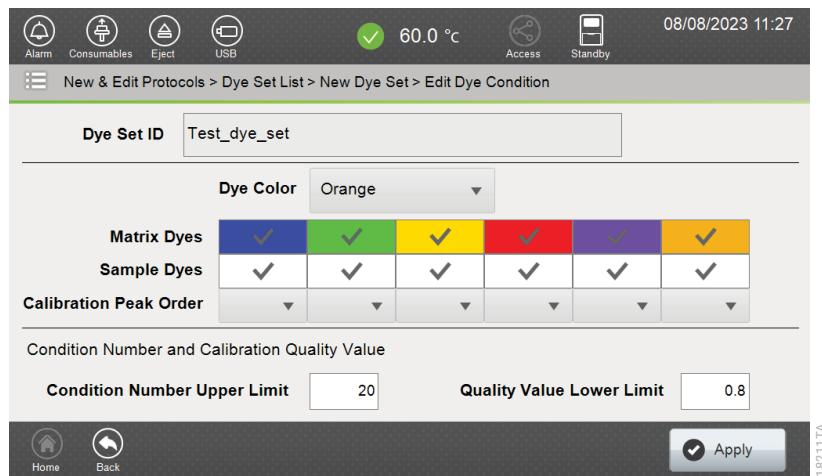
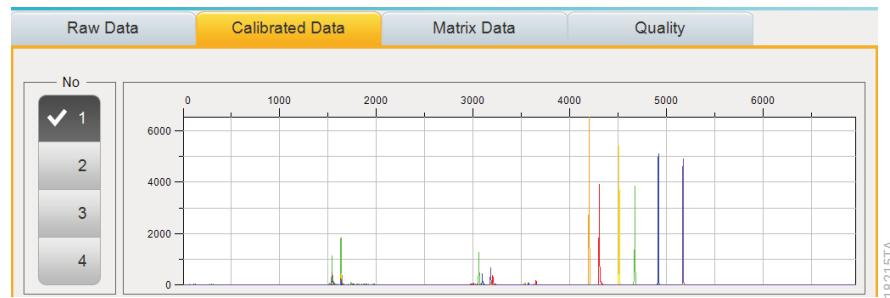
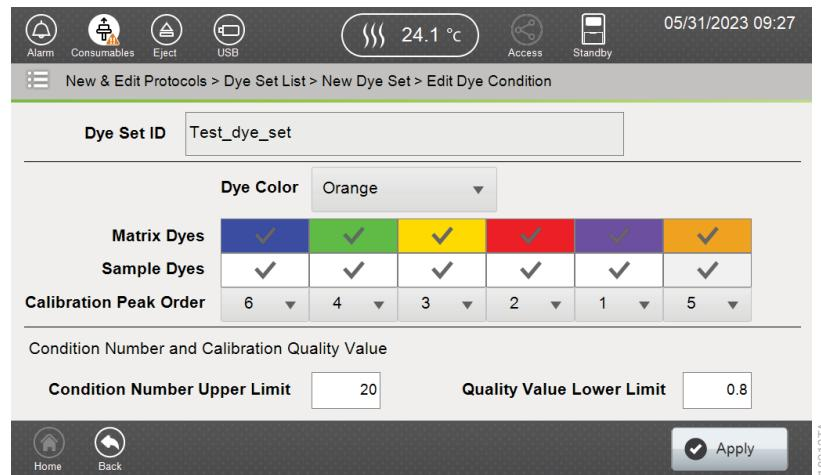

Figure 145. Selecting the dyes in the 'Edit Dye Condition' screen.
Figure 146. Dye order detected in Spectral Calibration.
Figure 147. Configuring the dye detection order in the 'Edit Dye Condition' screen.
5. Select the dyes used for Spectral Calibration on the Matrix Dyes row. This row shows the order that the dyes will appear in the 'Matrix Data' tab (Figure 55) and assigns a numerical value for each dye based on this order. In the example below, Blue = 1, Green = 2, Yellow = 3, Red = 4, Purple = 5 and Orange = 6. Select the dyes used for samples on the Sample Dyes row (Figure 145).
6. Configure the dye order in Calibration Peak Order. The Calibration Peak Order correlates the position of the dyes as they pass the detector relative to the order shown in the Matrix Dyes row (Figure 145). In this example, as the orange dye is in the sixth position in the Matrix Dyes row, but is the first dye labeled spectral calibration fragment to pass the detector (Figure 146), then the number 6 is listed first in the Calibration Peak Order row (Figure 147), showing that orange (6) will be detected first. The red dye is listed fourth in the Matrix Dyes row and is the second peak to pass the detector during calibration, therefore 4 is listed in the second cell of the Calibration Peak Order row (Figure 147), showing that red (4) will be detected second. Continue assigning Calibration Peak Order using this convention.